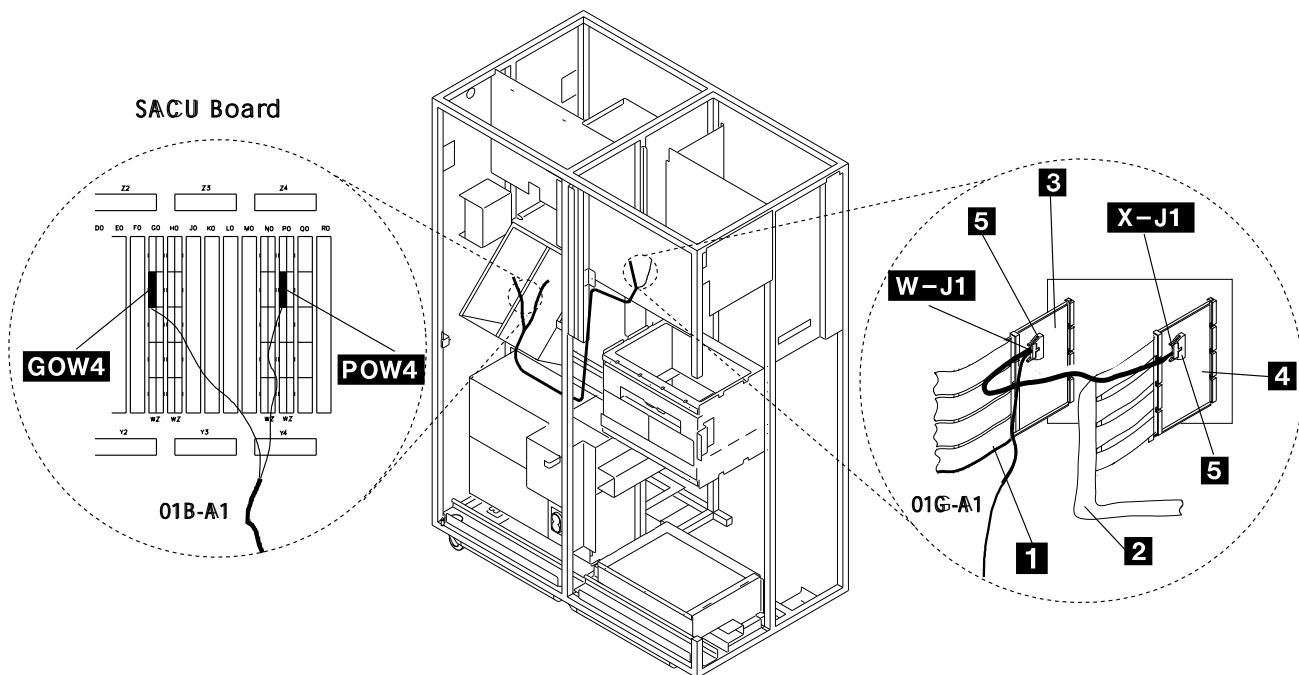
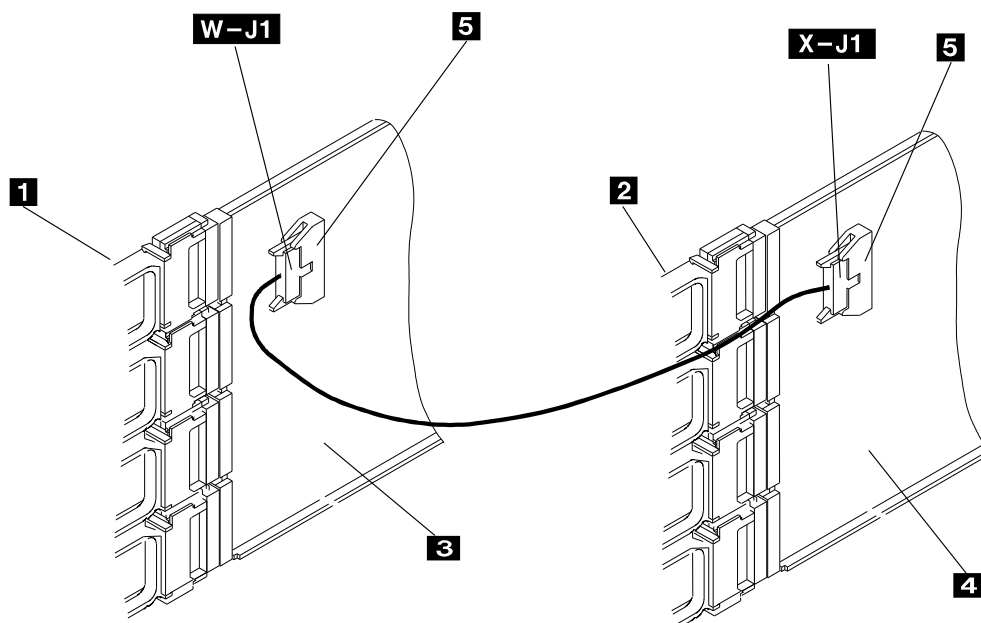

Figure 4-14. Cable 2 (PN 43G3181) Routing on a TSST Board
Figure 4-15. Cable 1 (PN 43G3180) Routing on a TSSB board
- Step 4. ____ Take a DICO card (PN 17G6080) , remove the four interposers plugged on top of the card , and while holding the card in your hand, plug the DICO cable 1 (or 2) lead **X-J1** to connector **5** of the DICO card PN 17G6080 (see Figure 4-14 or Figure 4-15).
- Step 6. ____ Position the DICO card **4** in location 01G-A1 X02, and the DICO card **3** in location 01G-A1 W02 (see Figure 4-14 on page 4-16 when plugging the card into a TSST board or see Figure 4-15 on page 4-16 when plugging the card into a TSSB board).
- Step 8. ____ If you are installing a cable PN 43G3181 (from the TSST board) route this cable to the SACU control board. (refer to Figure 4-14 on page 4-16).